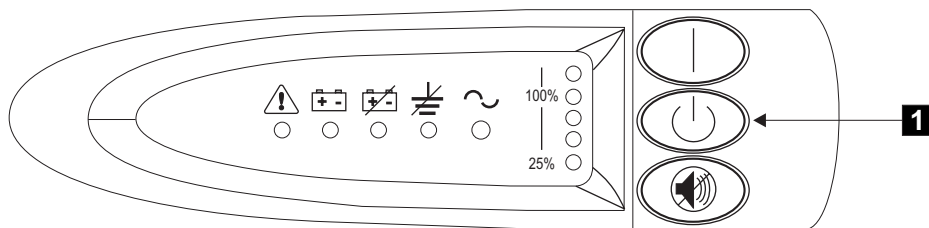

Figure 59. Uninterruptible power supply 5125 front panel assembly
1. At the front of the UPS 5125, press and hold the off button **1** for approximately five seconds or until the long beep stops. See Figure 59.